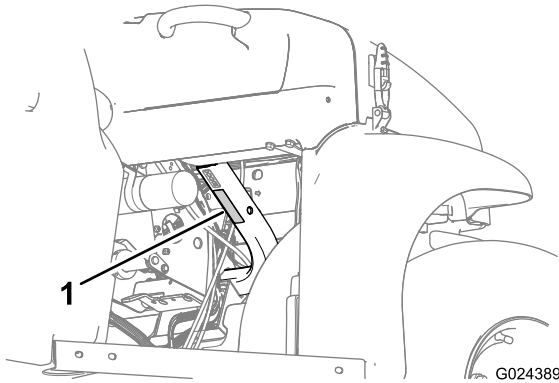

Figure 20
- Observe the weight capacity of the machine and limit the weight of the load that you carry in the cargo box as described in Specifications \(page 16\) and on the gross vehicle weight tag of the machine (Figure 20).